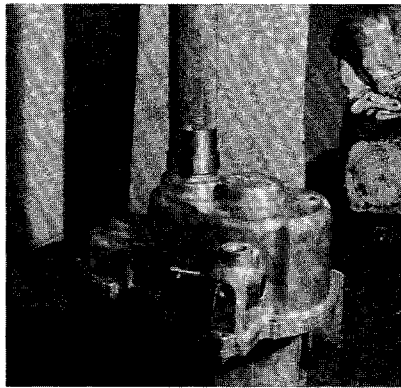

Figure 10-11
1. Press oil seal (31) from input shaft bore (Figure 10-11).